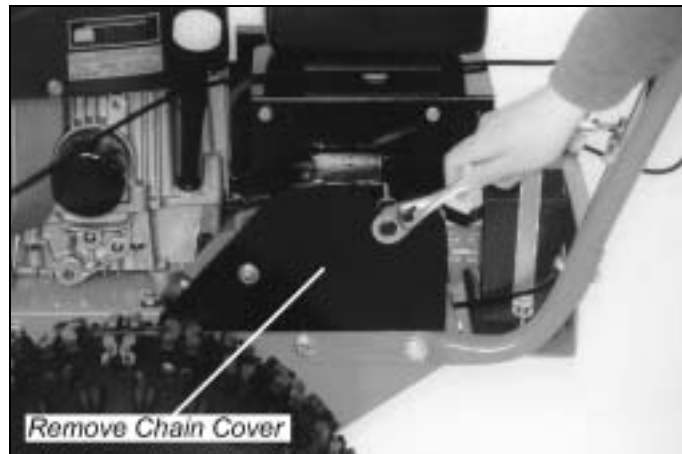

Figure 7
2. The drive chain should be lubricated with FLUID FILM[®] or comparable lubricant every 10 to 20 operating hours—more often if the machine is operated in extremely dusty or wet conditions. Remove the chain cover, lubricate the chain and replace the cover (*Figures 7 & 8*).